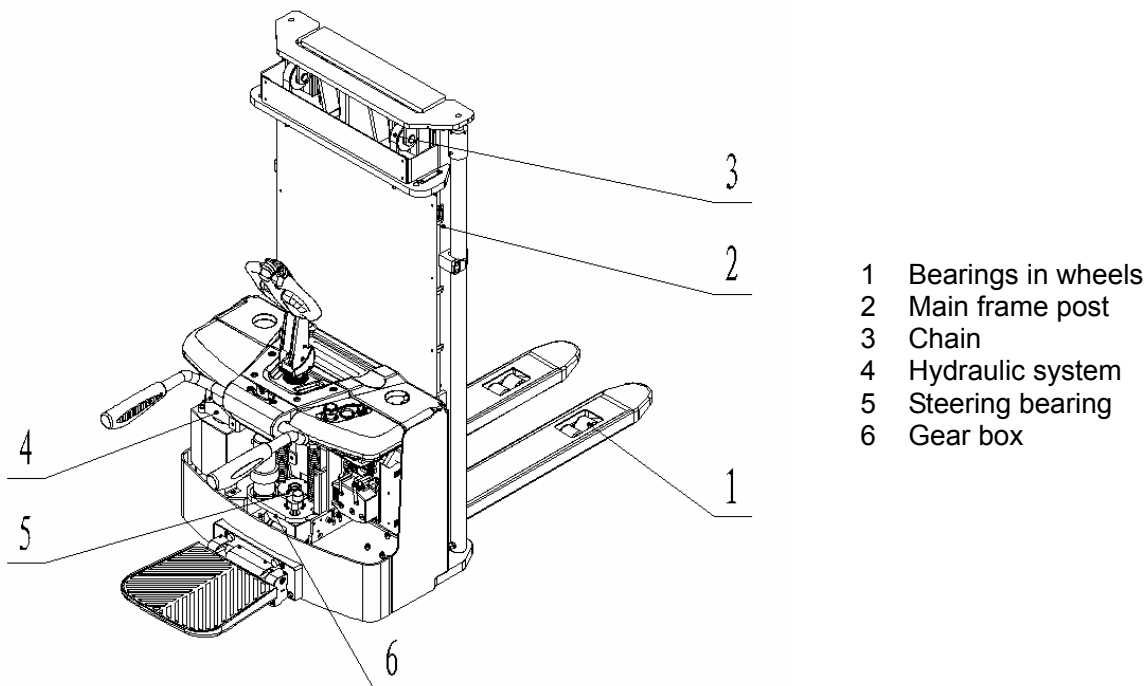

Fig. 15: Lubricating points
Park the truck securely and switch off the stacker with the key (1) and activate the emergency button (3). Open the battery cover and pull out the hinge. Then remove the battery cover, unscrew and remove the battery fixing plate, pull out the battery plug (Fig.15), and take the batteries out carefully. The installation is in the reverse order of the removal. Please connect the positive terminals firstly. Otherwise the tuck could be damaged.